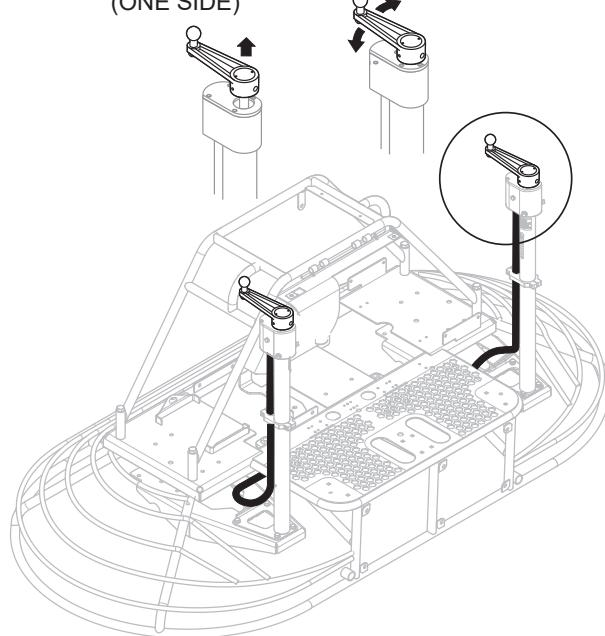

Figure 19. Pitch Towers
1. Lift the pitch adjustment handle (Figure 19) on either side of the trowel. Once lifted, that side is now disconnected from the Twin Pitch™ system.